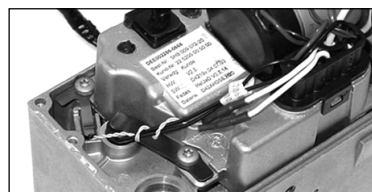

Fig. 2a: Routing the cables for the control and overheating sensor
- Ensure that the cables are routed correctly (see fig. 2a).
- Ensure that the cables are routed correctly (see fig. 2a)